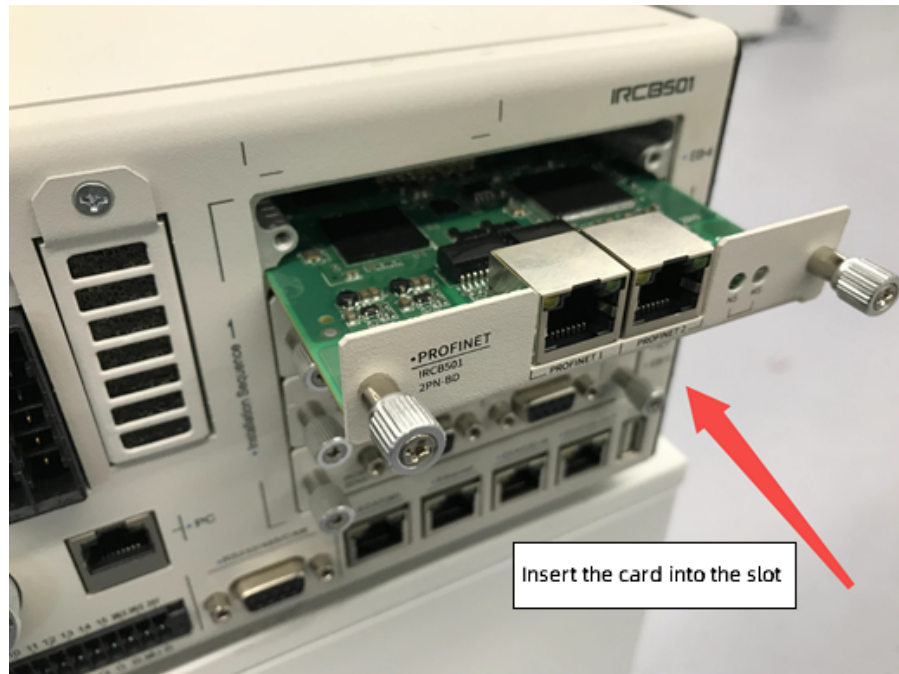
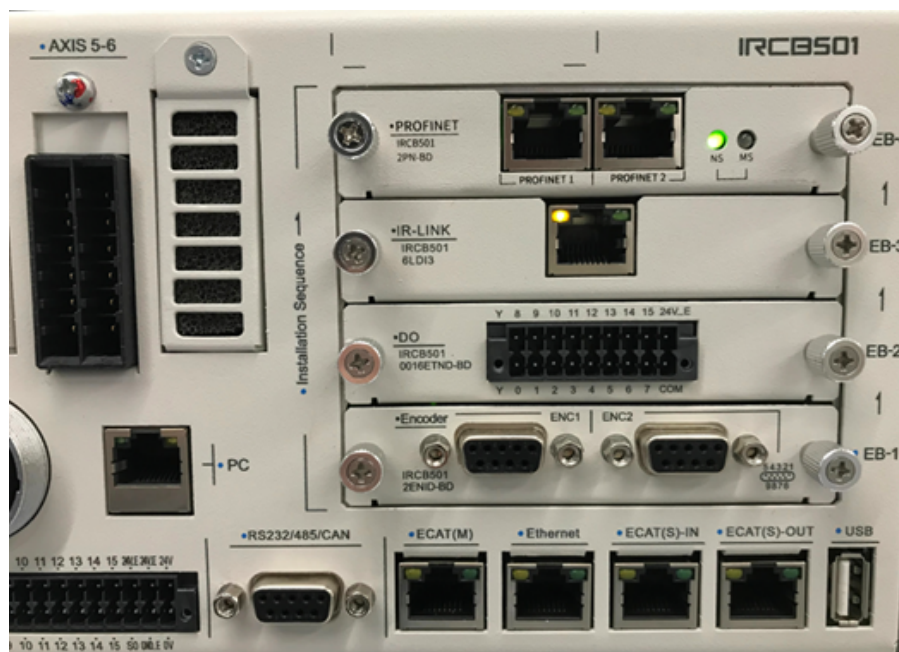

Figure 3-1 Expansion card installation
Figure 3-2 Completed startup of expansion card
1. The PROFINET expansion card supports hot-plugging. During installation, as shown in Figure 3-1, orient the expansion card with its front side facing upward and insert it along the controller's expansion card slot until it is fully seated. After approximately 5s, as shown in Figure 3-2, the NS indicator on the expansion card panel displays a steady green light, indicating that the expansion card startup is complete.